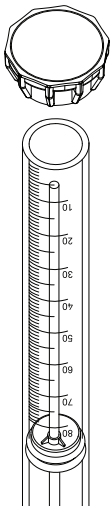

Figure 2 Remove stainless steel disk
- 6. Remove the bottom elastomer with the sintered stainless steel disk (Figure 2).